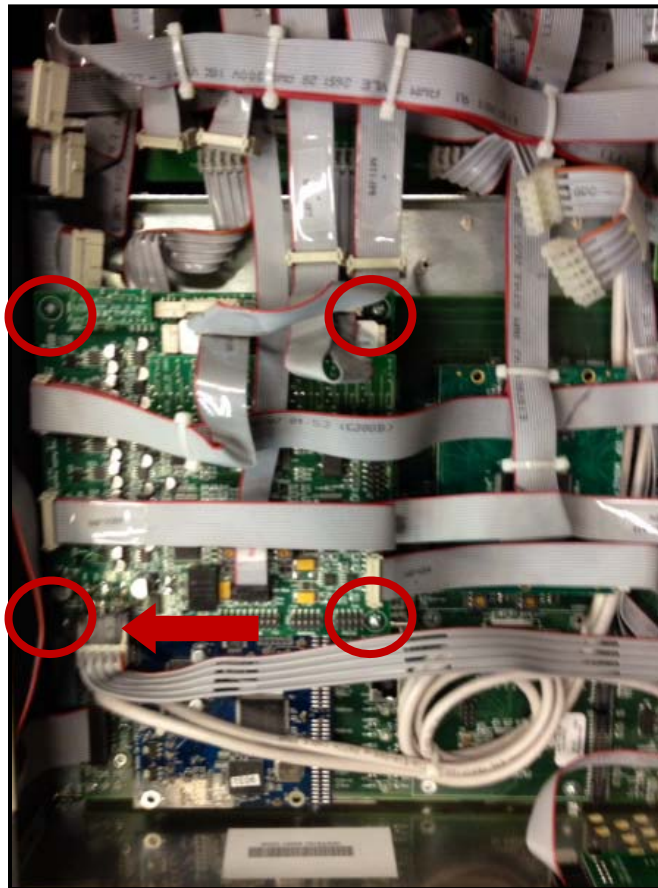

Figure 14
7. Plug the power cord (indicated with a red arrow in **Figure 14**) back into the IEDTN08AIO card, and then set it back into place and replace the four screws (indicated with a red circles in **Figure 14**).